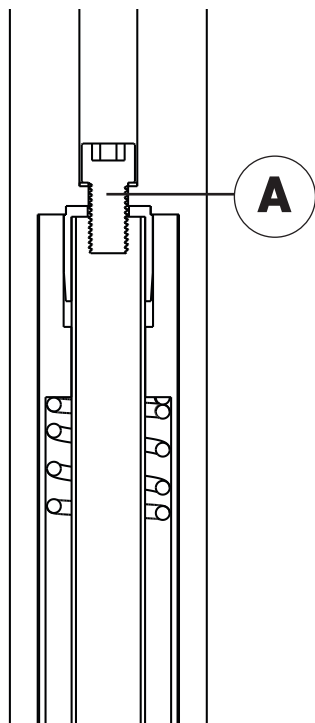
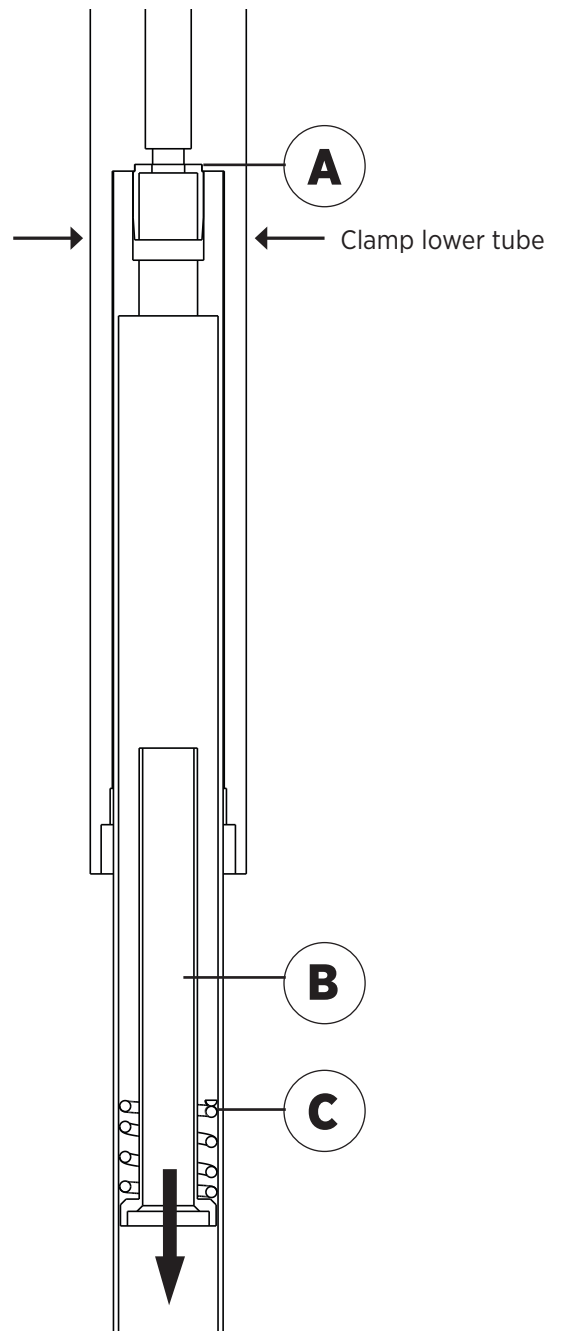

Fig. 3: Remove the damping post retaining screw (A).
Fig. 4: Compress fork to retain bottom-out cup; remove the damper tube (A) and negative/top out spring (B).
5. Clamp the lower tube in a vise with access to the retaining screw (Fig. 3 and Fig. 4).